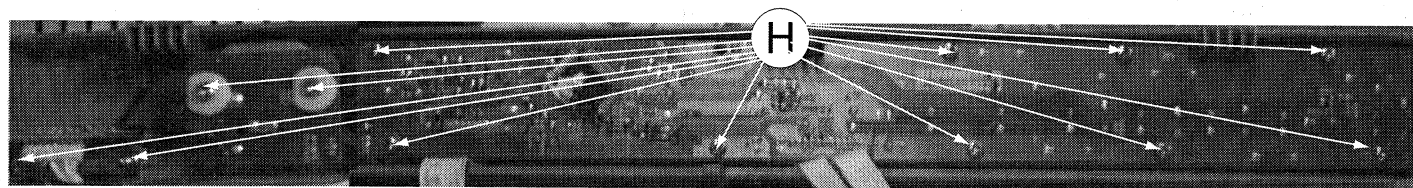

Figure 8
- 1) Loosen 13 screws "H" on the top of control board as shown in figure 8